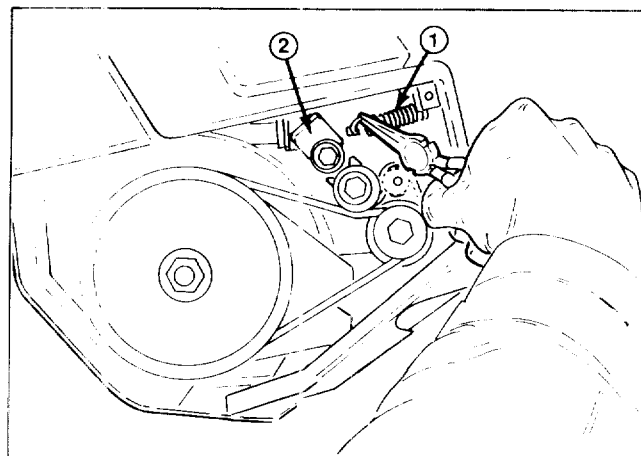

Figure 14
2. Remove idler spring from idler arm (Fig. 14).